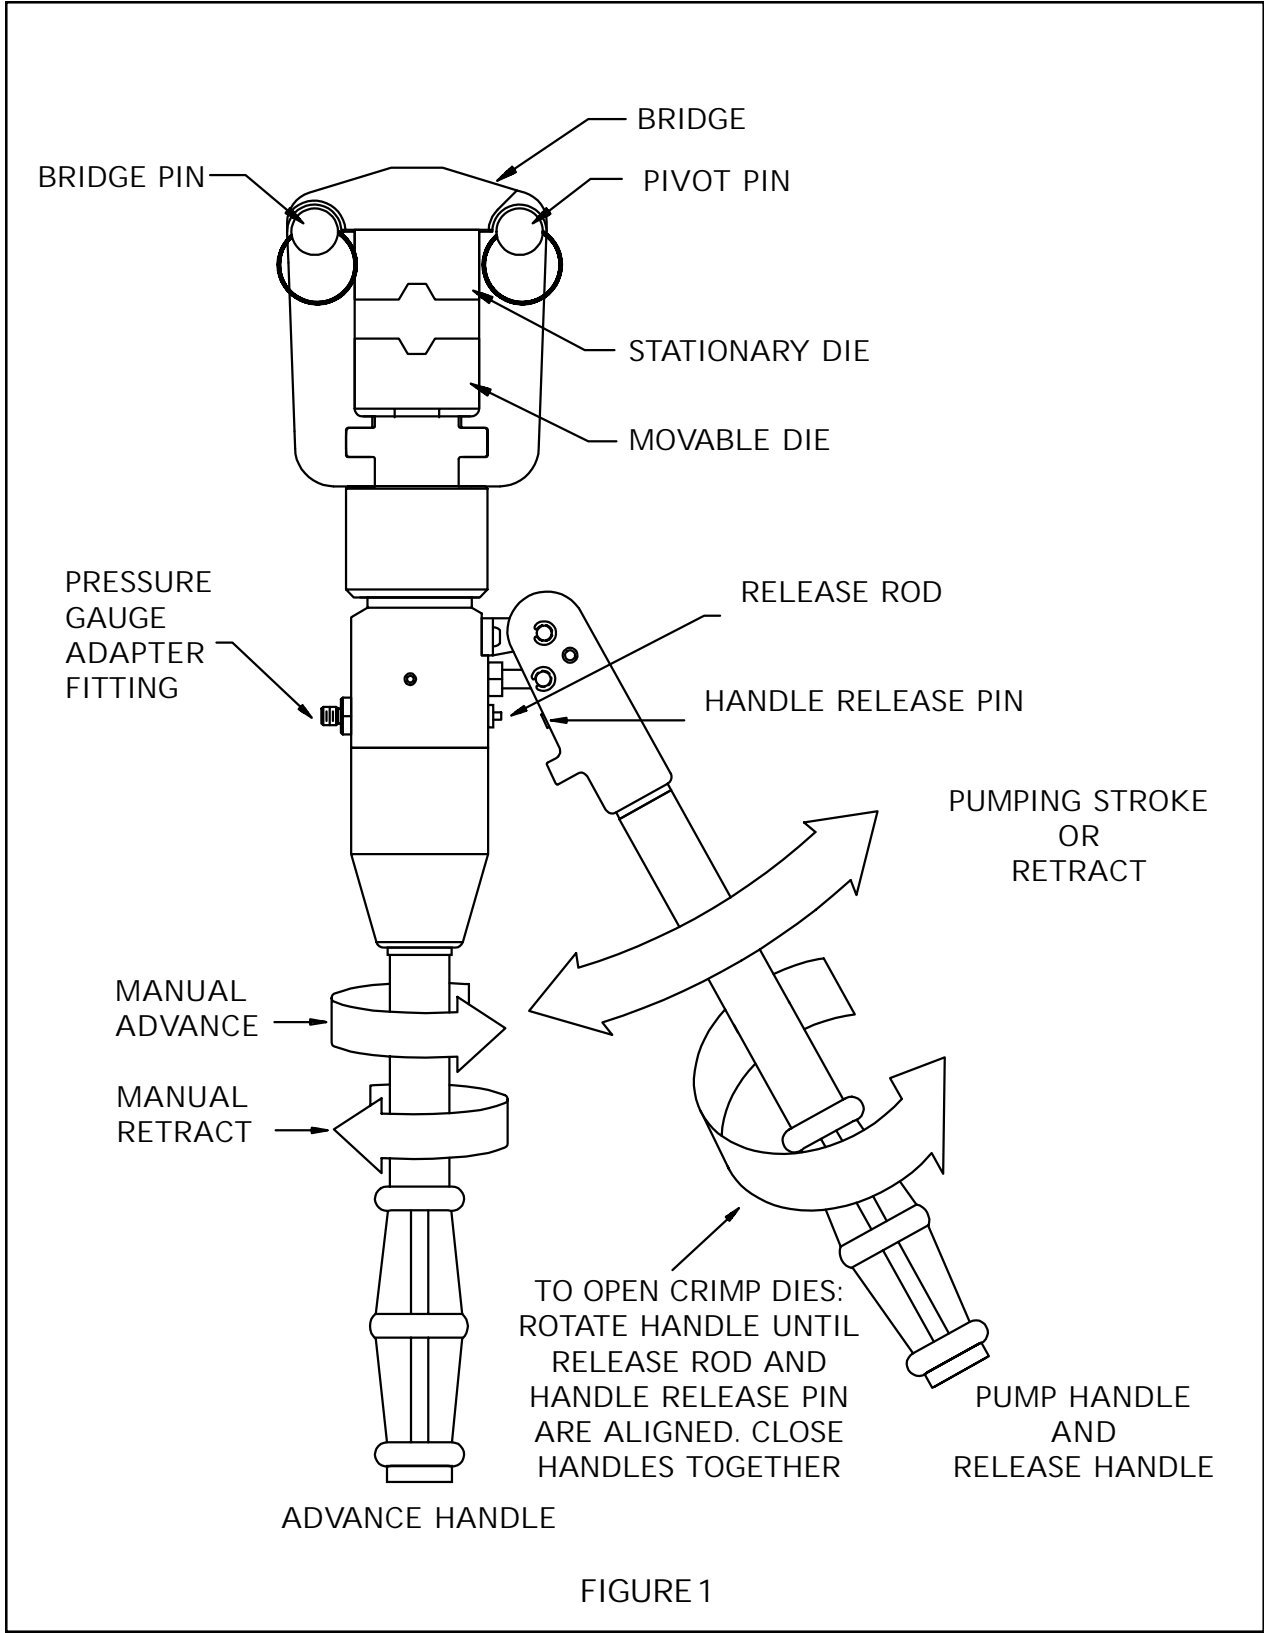
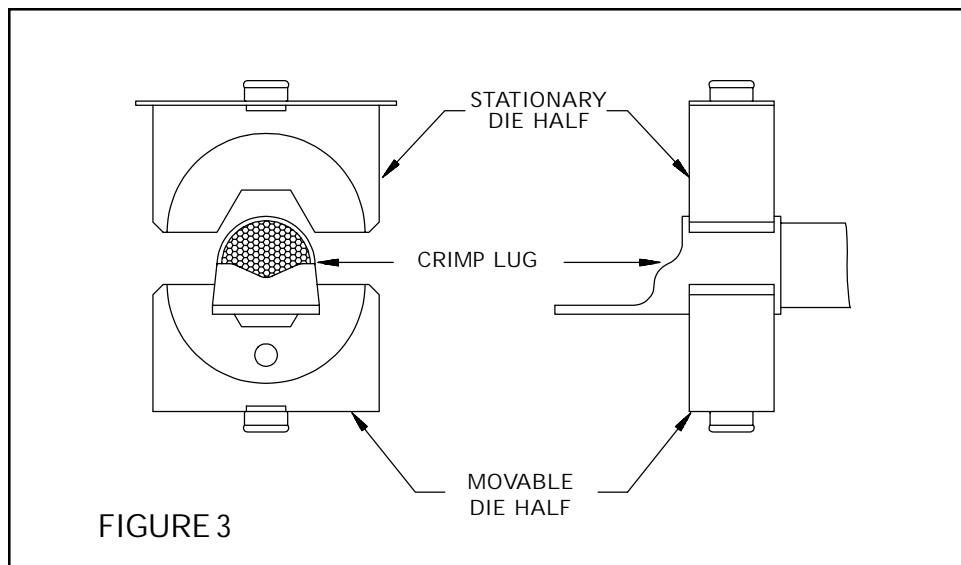

FIGURE 1
FIGURE 3
1. Pull both pivot and bridge pins to remove bridge as shown in Figure 1.
- Place a lug in the movable die making sure the lug is positioned as shown in Figure 3. Rotate the advance handle clockwise until the die loosely clamps the lug (see Figure 1).
- Release the movable die from the compressed lug by partially raising the pump handle. Then rotate the handle fully clockwise and push inward (see Figure 1). The movable die will open sufficiently to allow the lug to be removed.
2. Actuate the pump release handle and confirm that the die is in the fully open position (see Figure 1).